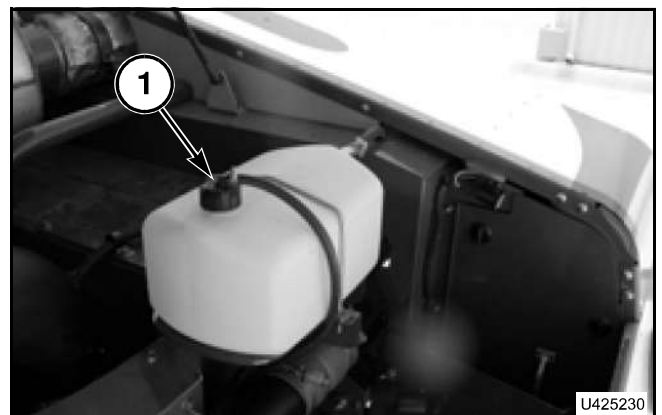

FIG. 121
FIG. 121: Close the drain valve at bottom of the radiator. Fill the system slowly through the expansion tank opening (1) with the recommended coolant and water mixture until the radiator is full.